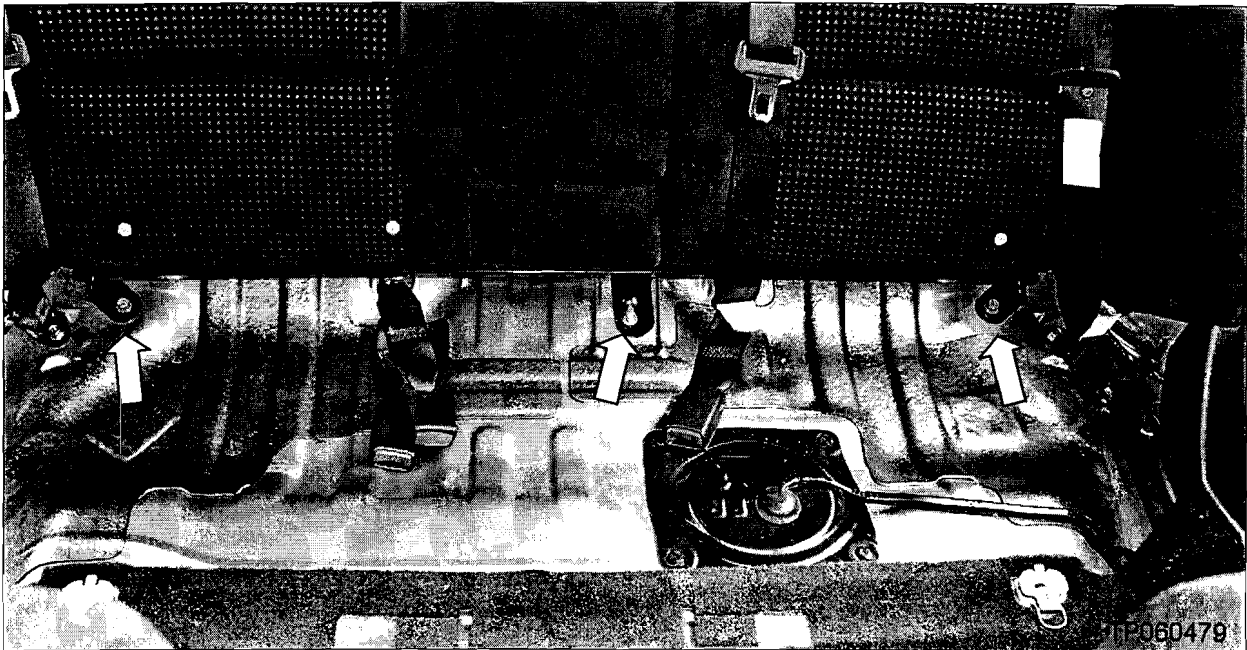

Figure 8
- f. Remove the 2 bolts and the center nut shown in Figure 8.